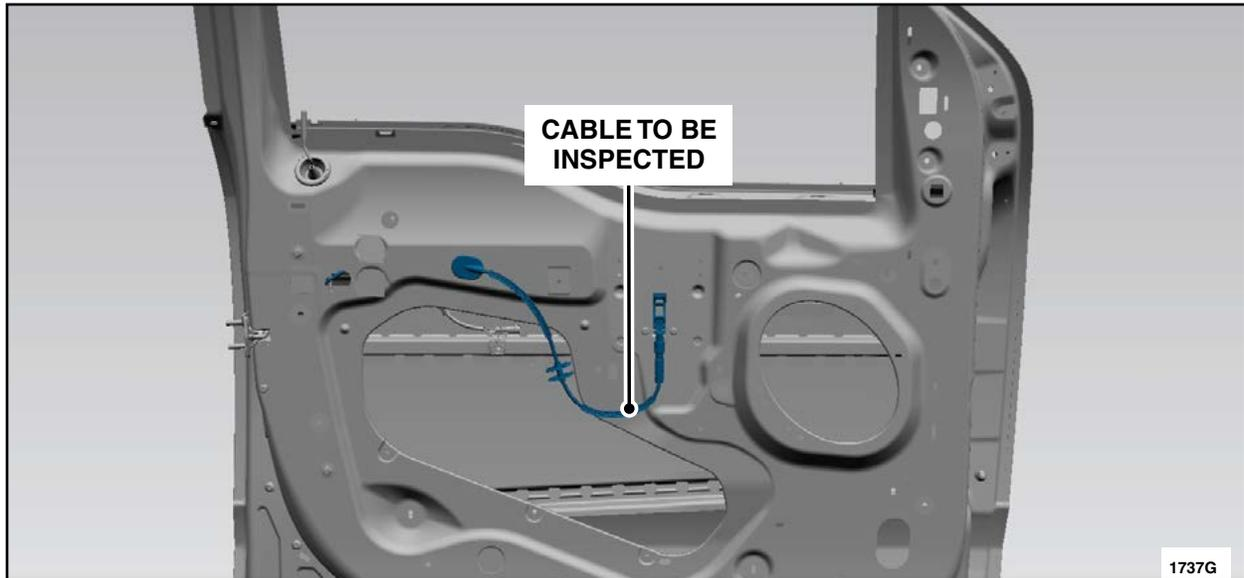

FIGURE 3
3. Inspect the interior door handle to latch release cable for kinking. See Figure 3.